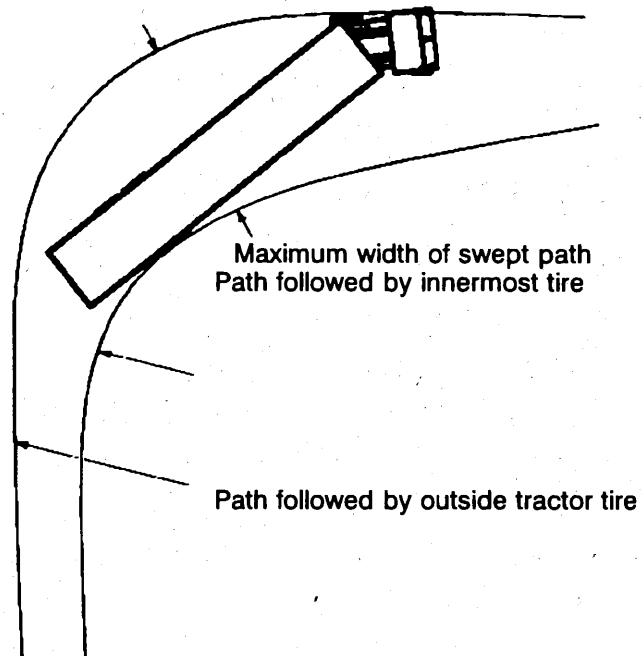
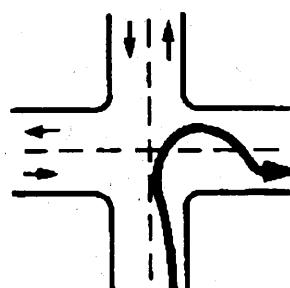

Figure 6-4
Figure 6-5
When a vehicle goes around a corner, the rear wheels follow a different path than the front wheels. This is called offtracking or "cheating." Figure 6-4 shows how offtracking causes the path followed by a tractor-semi to be wider than the rig itself. Longer vehicles will offtrack more. The rear wheels of the powered unit (truck or tractor) will offtrack some, and the rear wheels of the trailer will offtrack even more. If there is more than one trailer, the rear wheels of the last trailer will offtrack the most. Steer the front end wide enough around a corner so the rear end does not run over the curb, pedestrians, other vehicles, etc. However, keep the rear of your vehicle close to the curb. This will stop other drivers from passing you on the right. If you cannot complete your turn without entering another traffic lane, turn wide as you **complete the turn** (Figure 6.5). This is better than swinging wide to the left before starting the turn because it will keep other drivers from passing you on the right. If drivers pass on the right, you might collide with them when you turn.
5. Why should you turn like it shows in Figure 6-5?